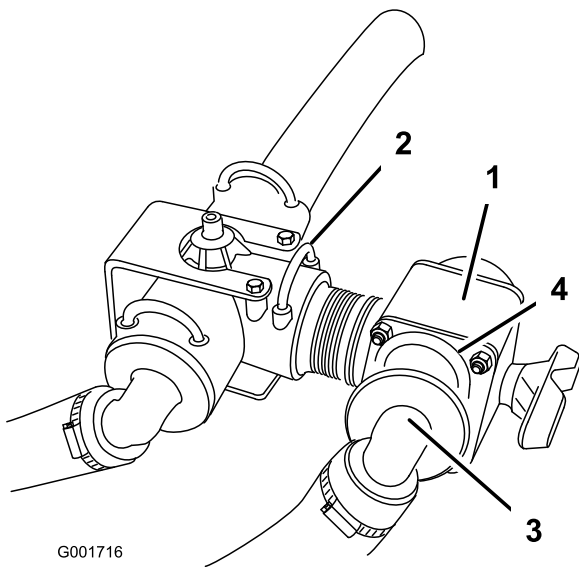

Figure 9
4. Install the new control valve into the rear facing open port on the supply tee, and secure it with a new retaining fork (Figure 9).
6. Connect the boom supply hose to the open port on the control valve and secure it with the retainer removed previously (Figure 9).